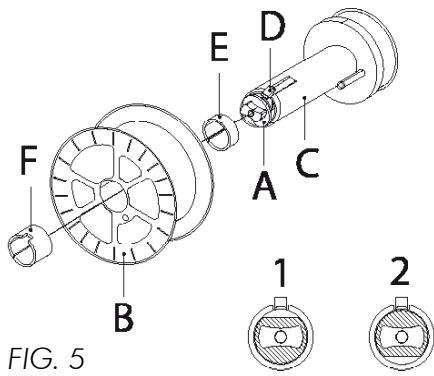

FIG. 5
- Open the side panel. Loosen the nut (A) of the spool holder (position 1) (brake drum). Remove the spacer (E, if present). In the case you are replacing the wire spool, extract it by pushing the snap tongue (D) (Fig 5).
- Remove the plastic protection from the spool. Place it on the spool holder. Mount the spacers again (E/F, only for 5kg spools; the smaller spacer E must be mounted between the spool and the spool holder). Then tighten the lock nut (A) turning it to position 2. (fig. 5).
- Remove the wire spool (B) from the spool holder (C).
- Loosen the nut (A), remove the spring and the washer; remove the spool holder (C) from the pivot.
- Insert on the pivot the 100mm diameter wire spool; Mount the washer, the spacer (G) and the spring.
- Tighten the lock nut (A).
**Tighten nut (A) to appropriate tightness. Excessive pressure strains the wire feeding motor. Too little pressure does not allow the immediate stop of the wire spool at the end of the welding.**